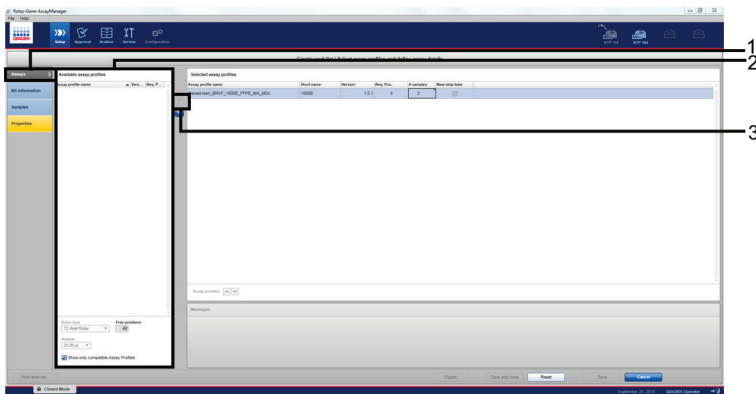

Figure 16. Create work list window. 1 = “Assays” tab. 2 = “Available assay profile” section. 3 = Arrow to select the assay profile.
- To perform a *BRAF* V600E Mutation Analysis run, ensure the “Assays” tab is selected on the left-hand side of the main window. Click “therascreen_BRAF_V600E_FFPE_MA_MDx” in the “Available assay profiles” window and click the blue arrow to select the assay profile. Mouse over the assay profile to see the full name (Figure 16).